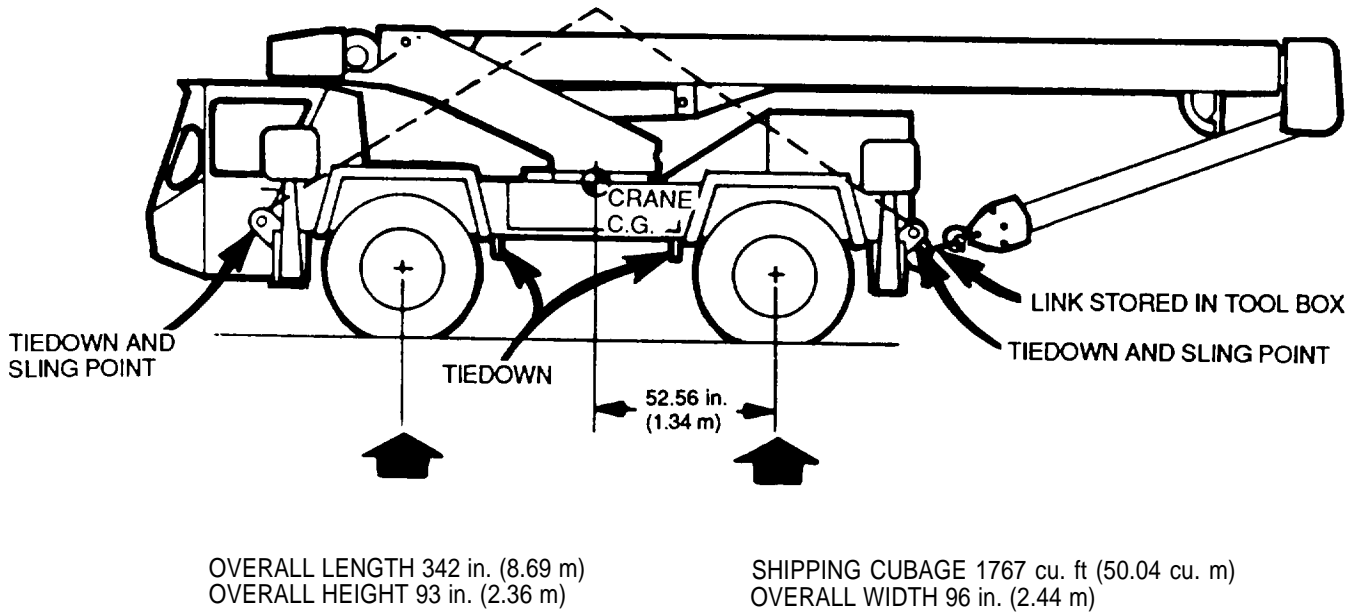

Figure 4-61. *Air Transport Tiedowns*
1. Retract the boom and lower it over the rear of the carrier (Figure 4-61).